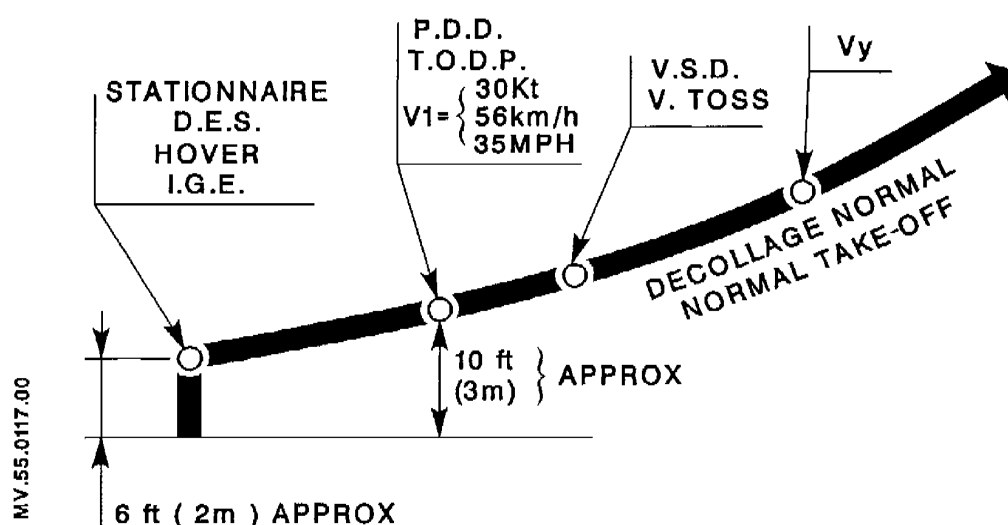

Figure 1
3.1.1 Normal takeoff procedure (figure 1)